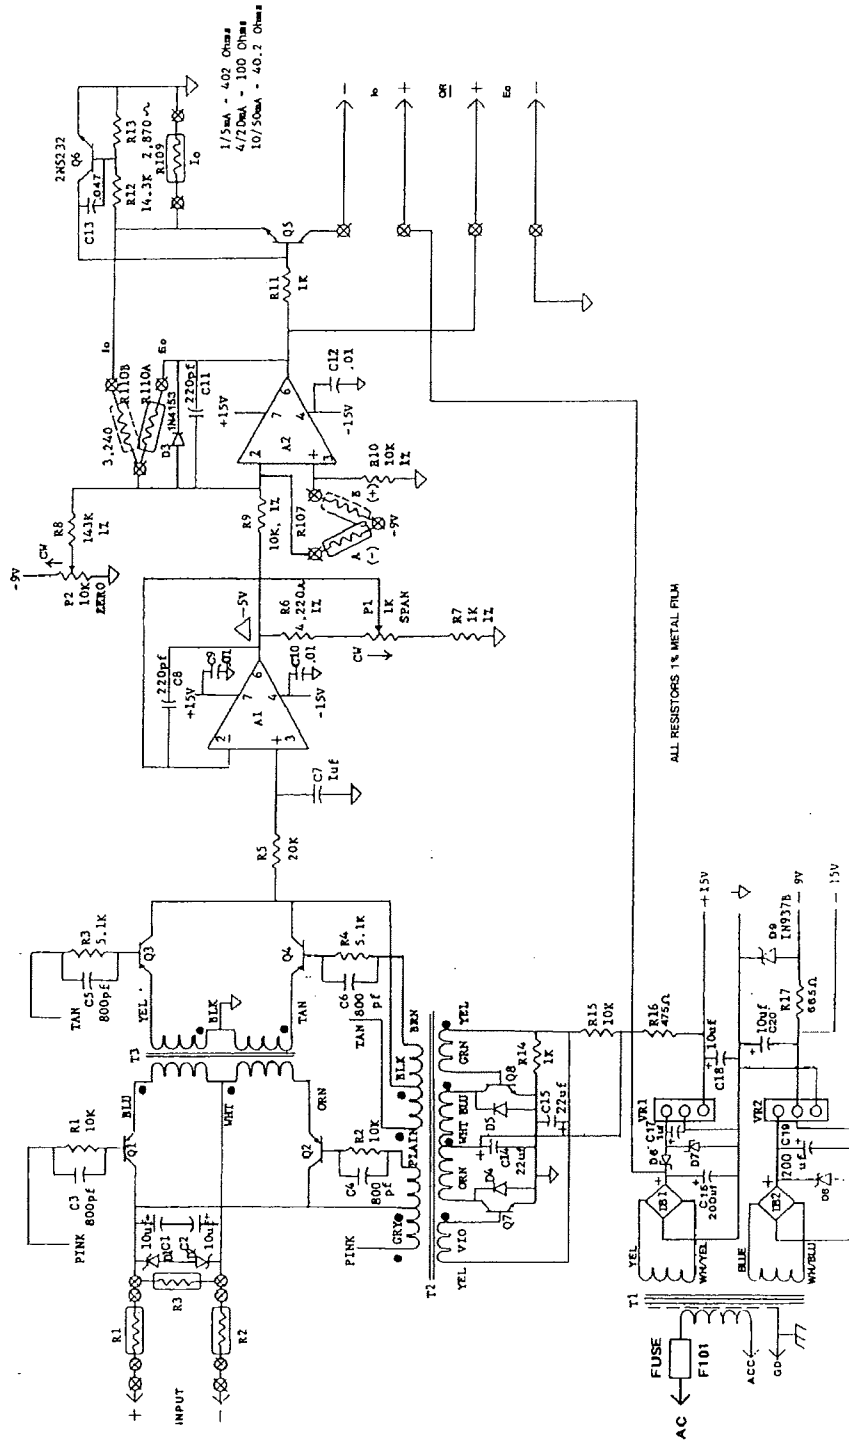
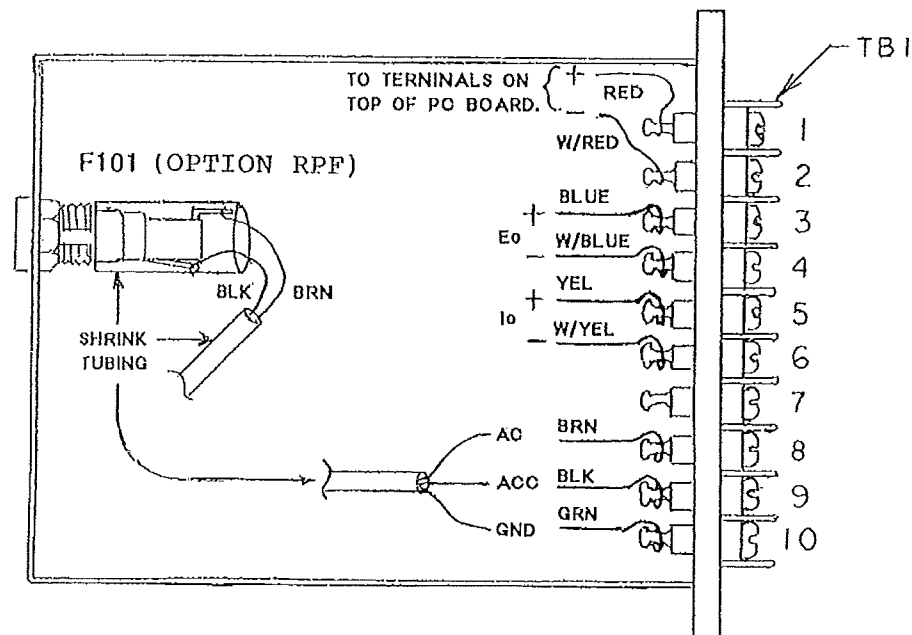

FIGURE 5-1 SCHEMATIC FOR THE 18-119 HIGH-LEVEL ISOLATED TRANSMITTER
Figure 6-1 - Fuse Location
- 5.3 A schematic (Figure 5-1) and parts locations (Figure 6-1, 6-2) and parts list in Section VI identify the components used.